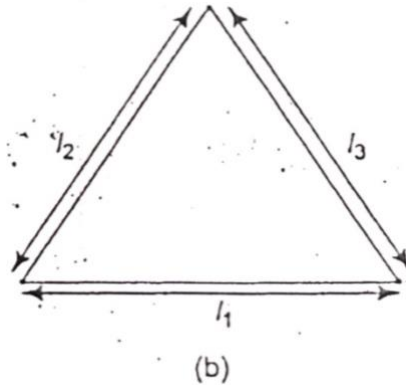

Fig. 1.3 (a) Measurement of h
19. Calculate the value of h , Fig. 1.3(a).
21. To find the value of l , we take the impression of the tips of the legs (of the spherometer) on a note book and using the two upper tips of the jaws of vernier callipers, note the distance/between the three legs. Fig. 1.3(b).
The distance between the legs of spherometer (Fig 1.3 (b))